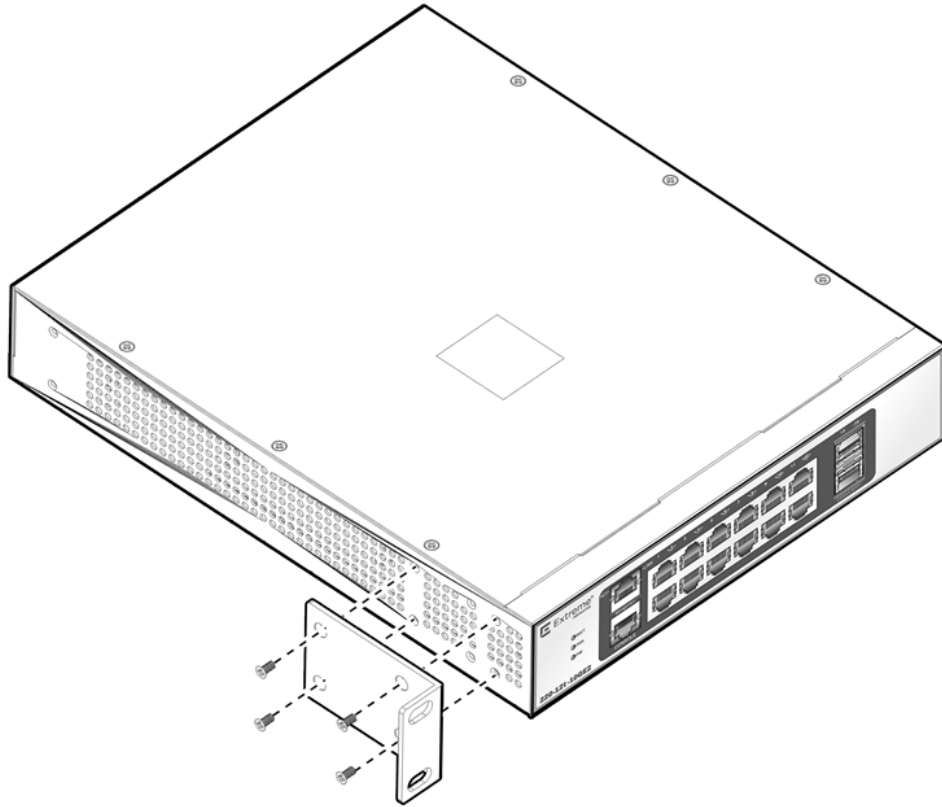

Figure 36: Dual-Mount: Attaching a Short Bracket to the First Switch
See Figure 36.
- c Using four chassis screws, attach a short mounting bracket to the right side of the switch, as shown in Figure 36 on page 41.